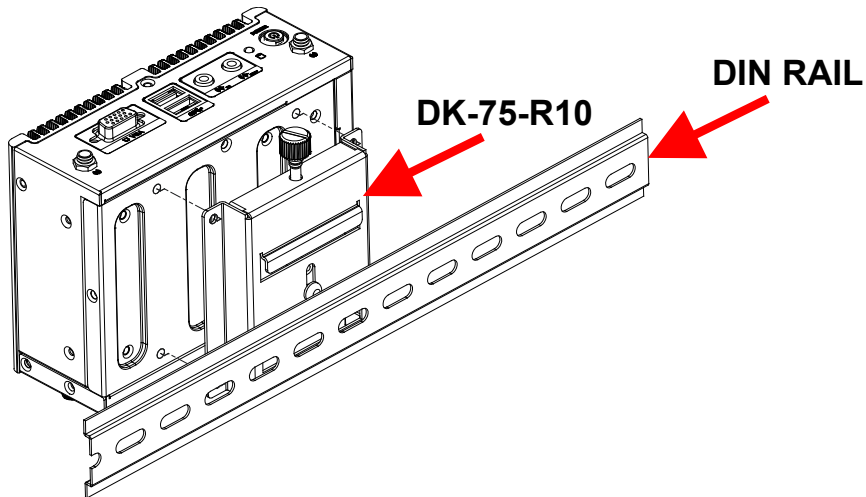

Figure 3-18: Mounting the DIN Rail
Step 3: Place the DIN rail flush against the back of the mounting bracket making sure the edges of the rail are between the upper and lower clamps (**Figure 3-18**).